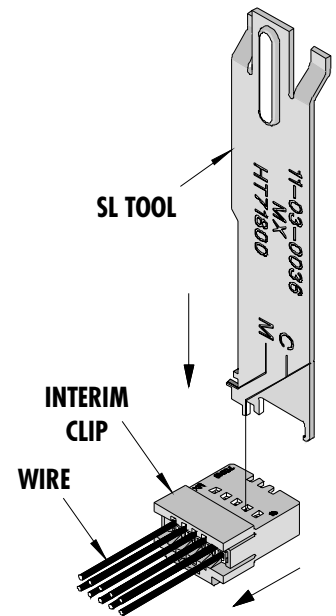

Figure 4
Most of the interim clips have small slots either on the top or the bottom of the part depending on the size of the clip. Smaller clips less than 12 circuits have the slots on the bottom. (Figure 4 is oriented from the bottom.) If there are no slots for extraction, then housings must be removed from clip.
2. Pull the terminated wire out in the direction of the arrow. See Figure 4.